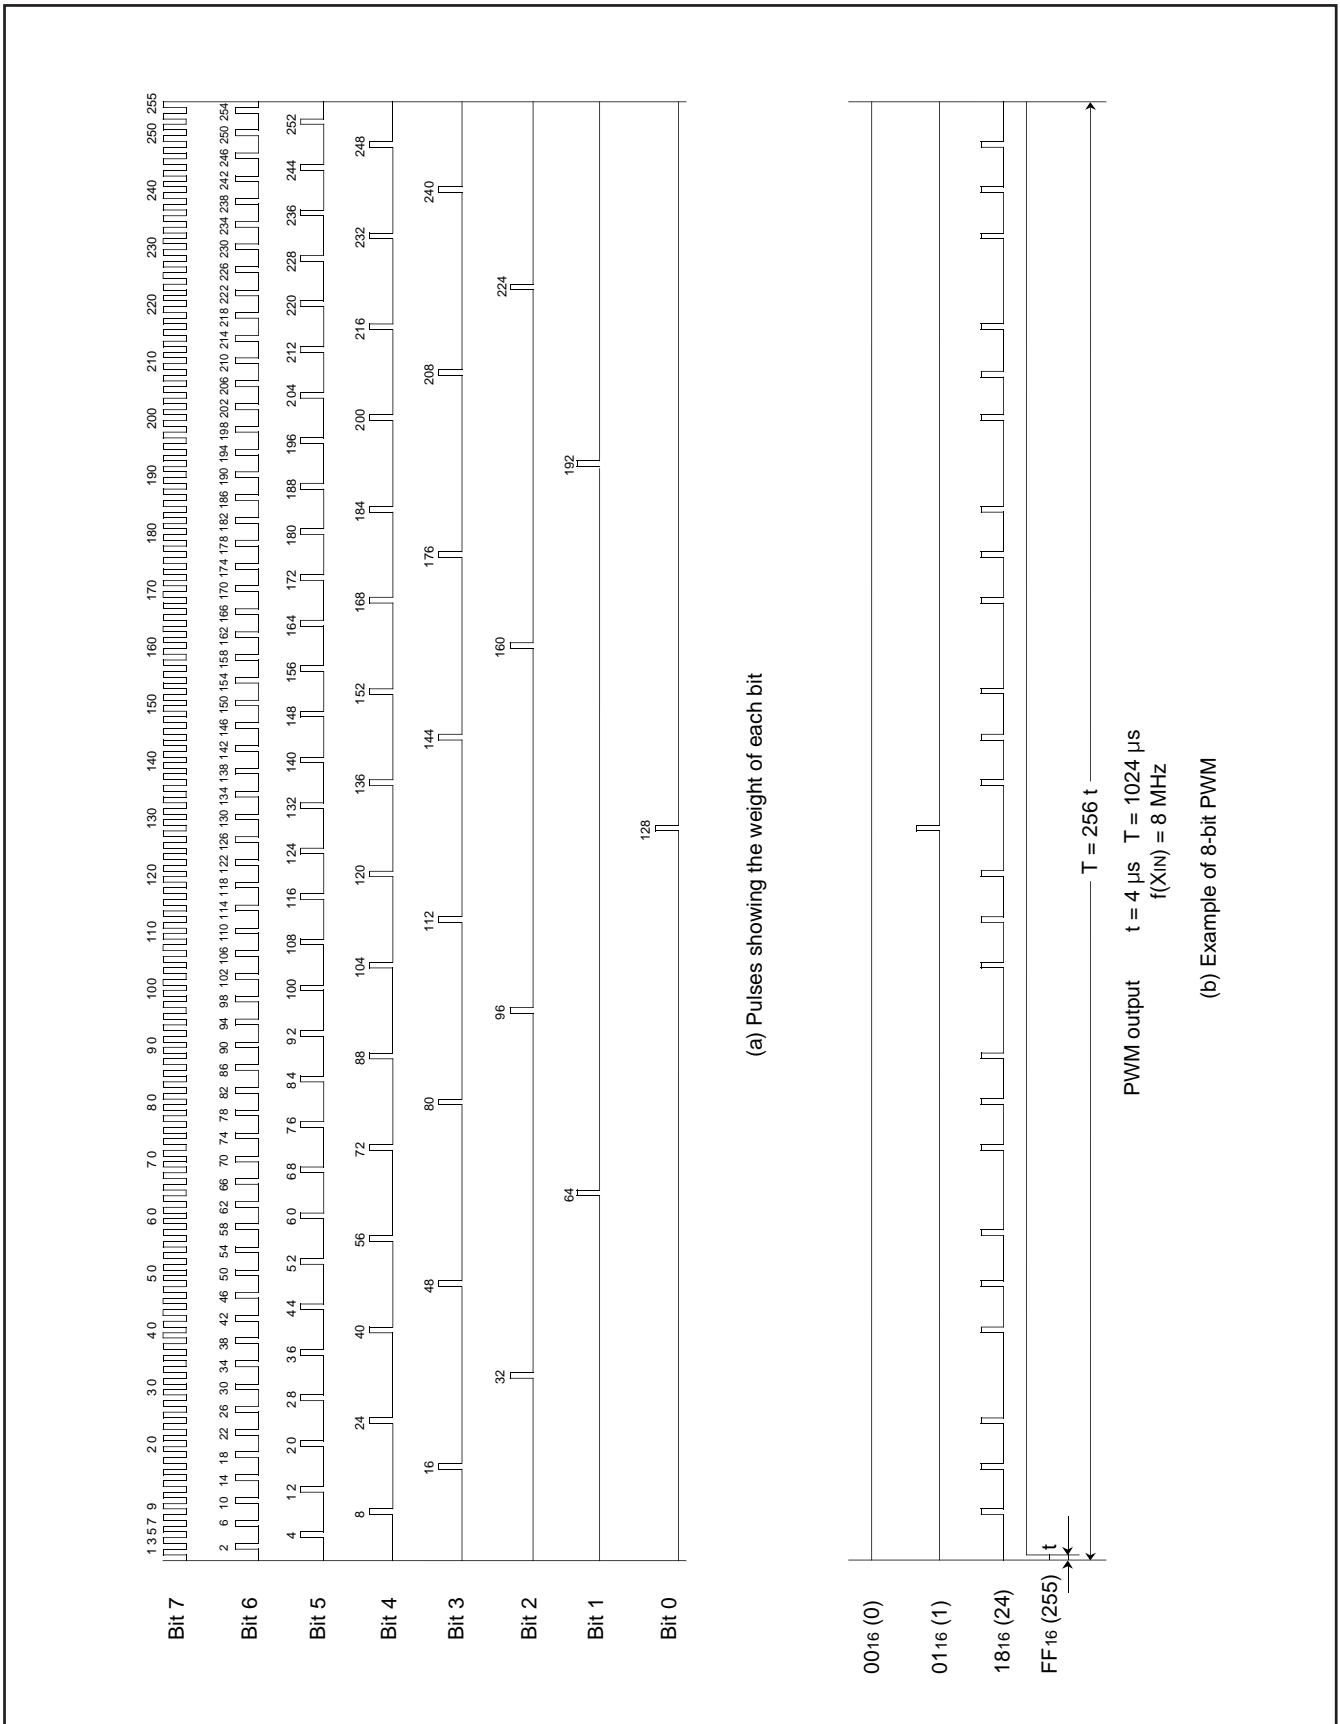

Fig. 8.7.2 PWM Timing
Figure 8.7.2 shows the 8-bit PWM timing. One cycle (*T*) is composed of 256 (2^8) segments. 8 kinds of pulses, relative to the weight of each bit (bits 0 to 7), are output inside the circuit during 1 cycle. Refer to Figure 8.7.2 (a). The 8-bit PWM outputs a waveform which is the logical sum (OR) of pulses corresponding to the contents of bits 0 to 7 of the 8-bit PWM register. Several examples are shown in Figure 8.7.2 (b). 256 kinds of output (HIGH area: 0/256 to 255/256) are selected by changing the contents of the PWM register. An entirely HIGH section cannot be output, i.e. 256/256.